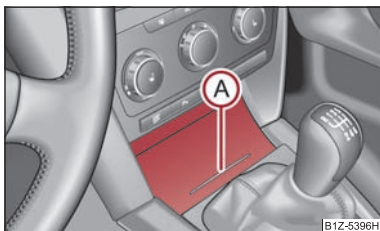

Fig. 92 Front centre console: Storage compartment
- Press on the bottom part of the storage compartment in the area (A) ⇒ fig. 92 - the lid opens.